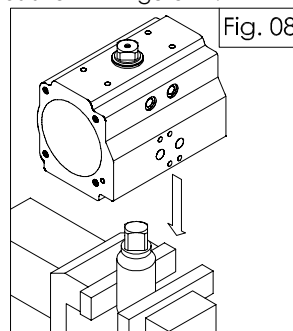

Fig. 08
B) Pistons assembly (Part NO.07), figure 08,09,10 and 11:
- Install piston O-rings (13), the piston skirt (14) and piston head (12) bearings.
- Grease the internal surface of the body (06) and the piston (07) rack teeth.
- Hold the body (06) in a horizontal position by inserting the top of the shaft into a vice or the bottom of the shaft connection into a male drive fitted in a vice as shown in figure 08.